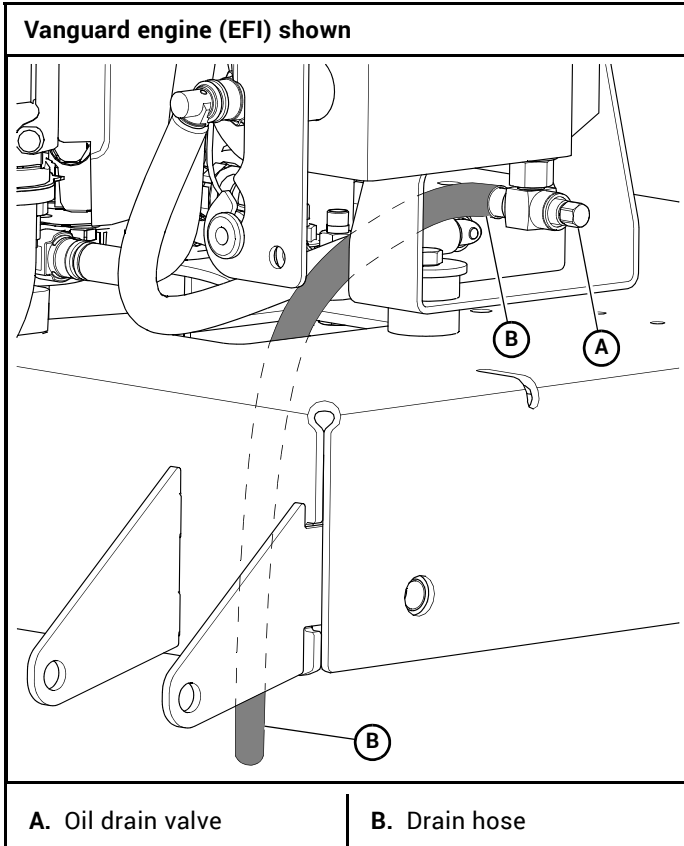

Figure 5-2
1. Locate the oil drain valve on the bottom of the oil tank. Figure 5-2
3. Attach one end of the hose onto the oil drain valve nipple. Make sure the hose is pushed all the way onto the valve. Figure 5-2